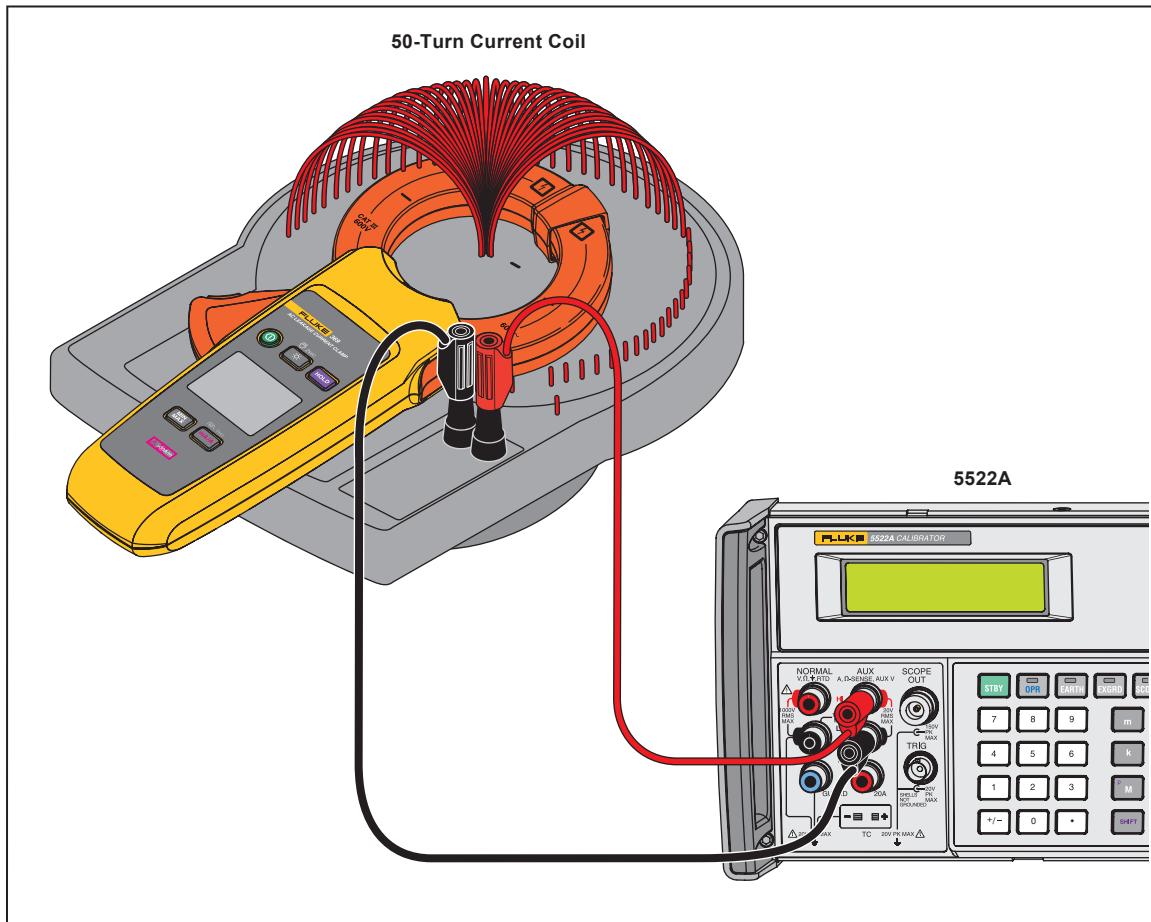

Figure 4. Connection with 50-turn Coil
1. Connect the UUT as shown in Figure 4.